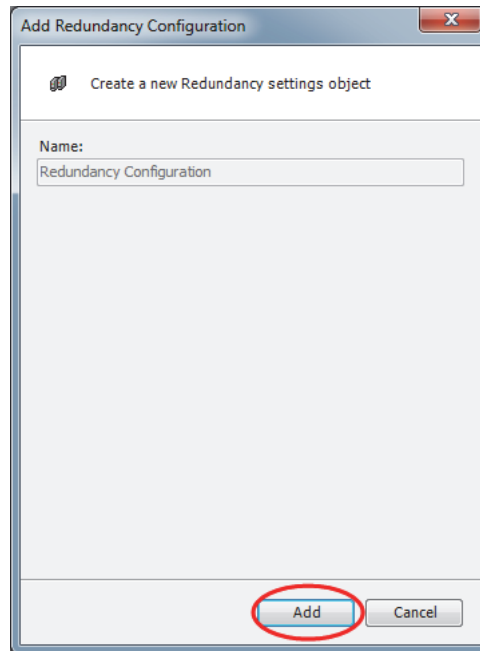

Figure 5-3 Add Button Selection
3. In the Add Redundancy Configuration Window, select the Add Button (Figure 5-3).